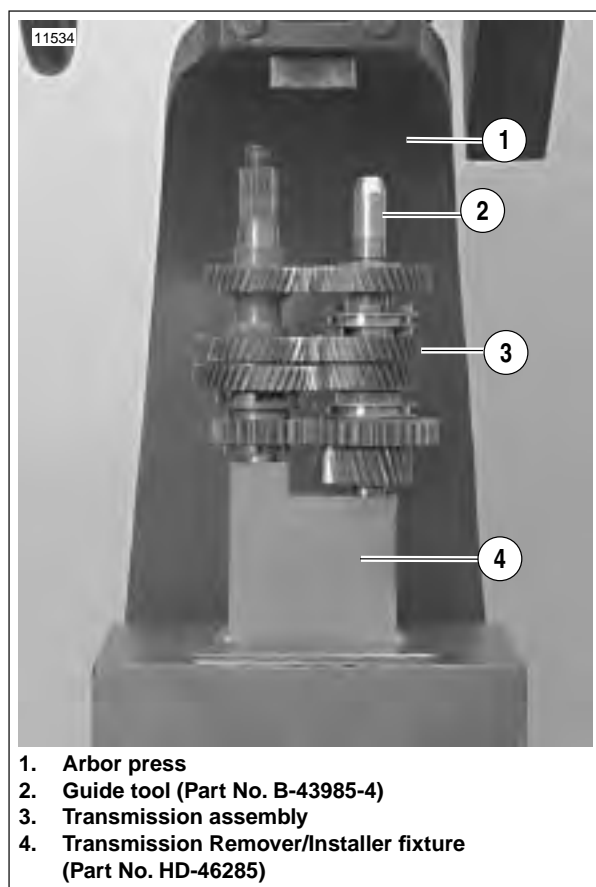

Figure 6-87. Transmission Assembly in Fixture (Typical)
1. See Figure 6-87. Place transmission assembly onto TRANSMISSION REMOVER/INSTALLER FIXTURE (Part No. B-43985-2) on arbor press.